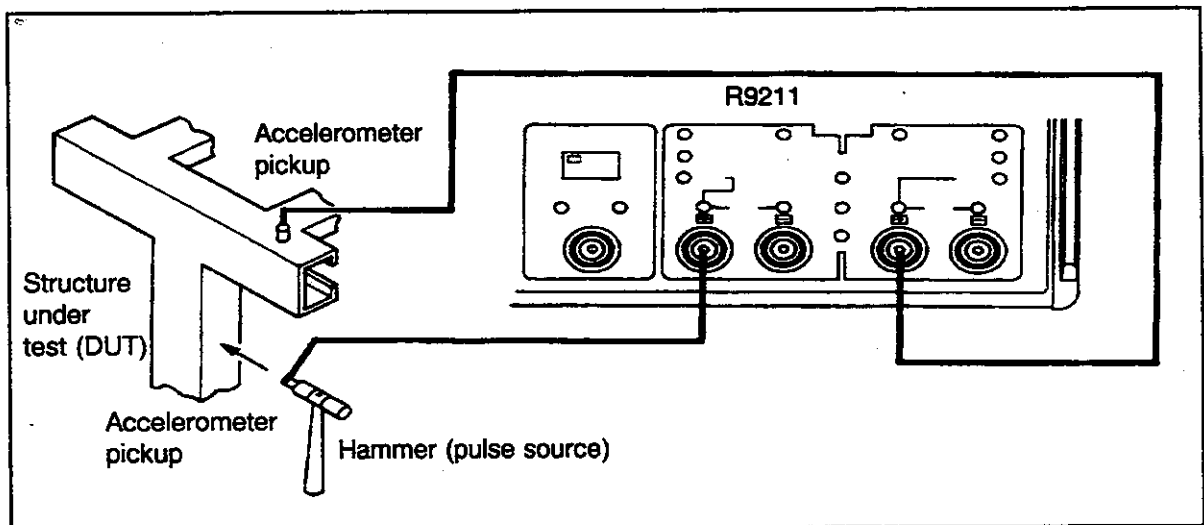

Figure 6-18 Connection of the Impulse Hammer
**Connect the accelerometer to the R9211. (See Figure 6-18.)**